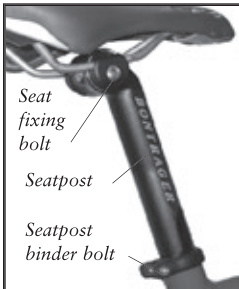

Figure 2- Seatpost parts
The seat, the part you sit on when riding a bike, is held in place by the seatpost (Figure 2). The seatpost binder secures the seatpost in the frame. Proper adjustment of each component is important for your comfort and pedaling efficiency. This section explains how to inspect, adjust, and lubricate your seat, seatpost, and seatpost binder.
Every month inspect the seatpost quick-release lever, or seat post binder bolt, and seat fixing bolt (Figure 2) for proper tightness. Make sure the seat is secure by attempting to turn the seat and seatpost in the frame, and attempt to move the front of the seat up and down. If the seat rotates, is loose, or moves up and down, tighten the binder bolt or quick-release, or seat fixing bolt, and repeat the test. Never engage the seatpost binder with the seatpost out of the frame.
- Seat post binder (Figure 2): 85-125 lb•in (9.6-14.1 Nm).